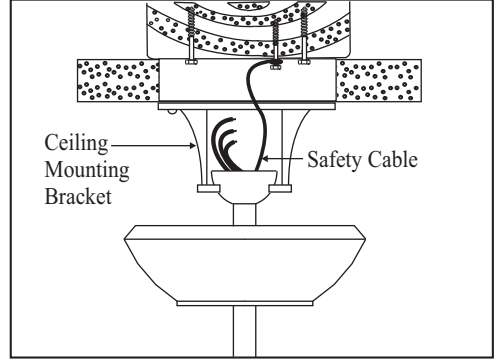

Figure 10
5. Secure the safety cable to the building structure as shown in Figure 10.